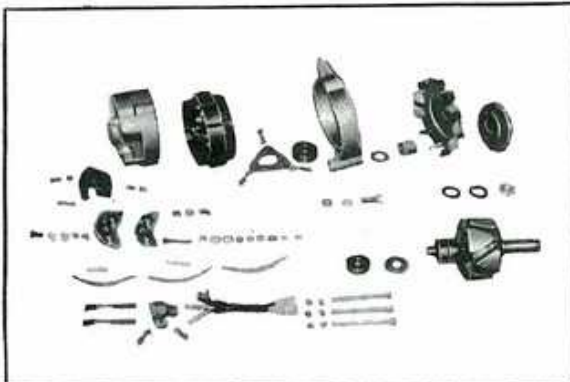

Fig. EE-19
- 11) All disassembled parts are shown in Fig. EE-19.